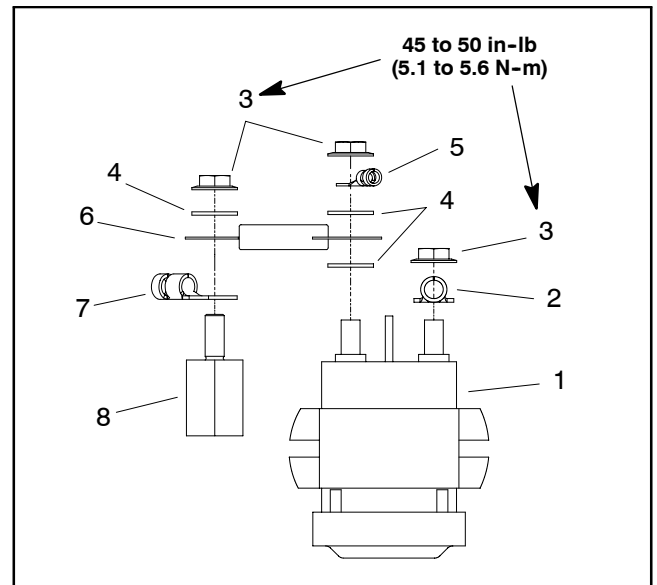

Figure 33
7. Connect electrical connections to contactor. If main contactor connections were removed, use Figure 33 as a guide for reattaching cable and wire harness connections.